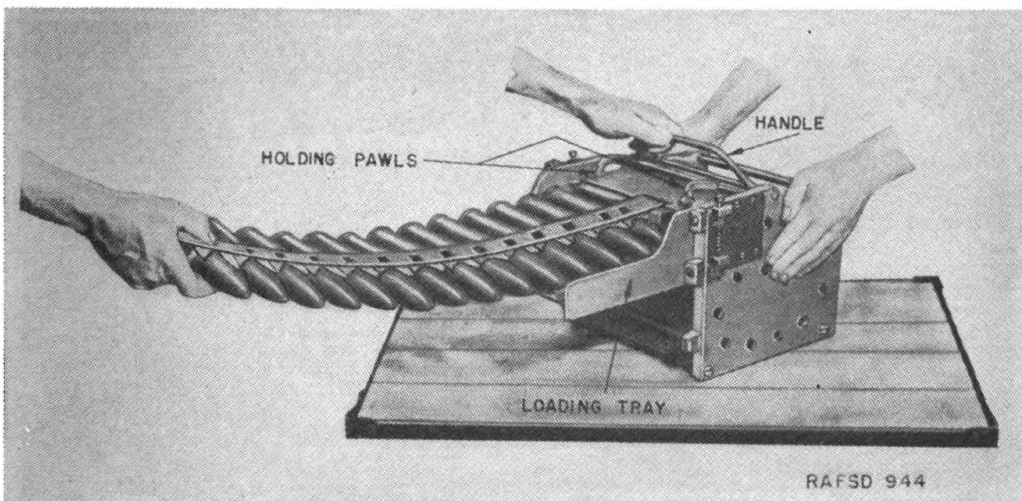

FIGURE 6.—Belt, loading, 15-round link in magazine, 37-mm automatic gun M4.
c. While holding the belt holding pawls disengaged with the left hand, lift the belt and slide the left end into the magazine as far as it will go freely, making sure that the top plate of the first round engages the link guide of the magazine (fig. 6).